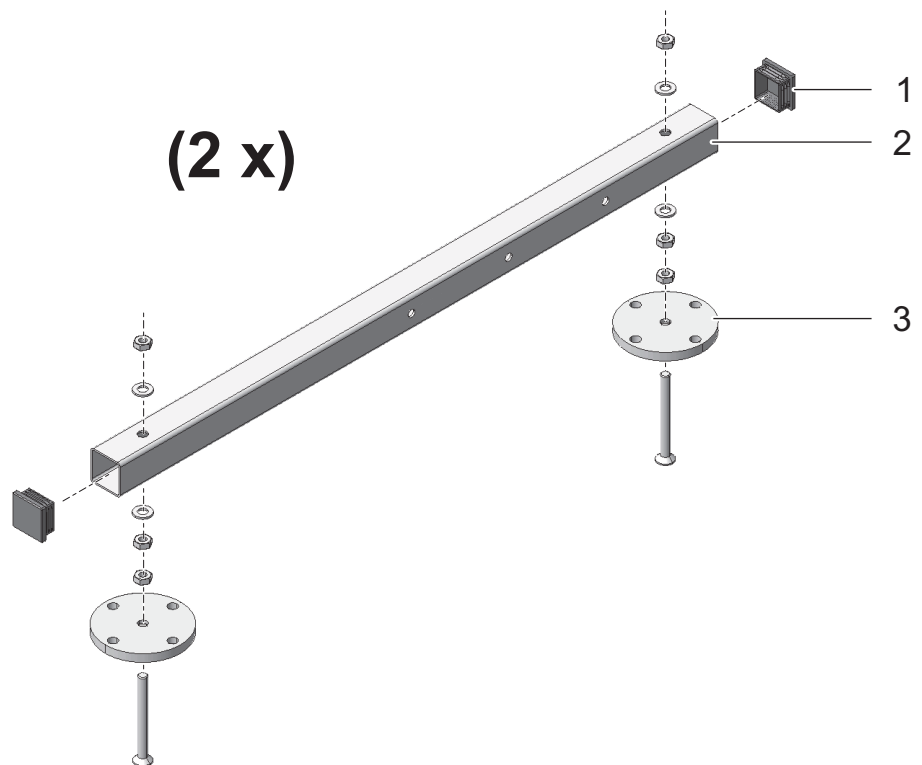

Fig. 3-1: Mounting the ground pipes
- 1 Press the plastic protective plugs (1) into both ends of the square ground pipes (2).
- 2 Mount the four height adjustable stand feet (3) on the square ground pipes (2) using the enclosed M10 hexagon countersunk head screws. Make sure to use the correct number of plain washers and nuts in the correct order according to Fig. 3-1, 25.